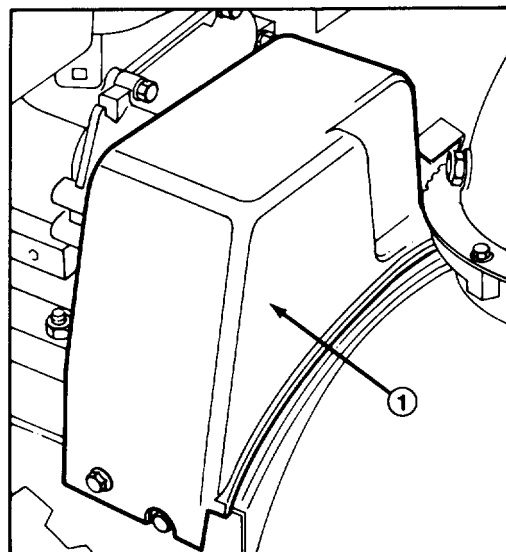

Figure 23
2. Remove two thread forming screws holding belt cover in place, and set belt cover aside (Fig. 23).
3. Remove auger drive belt from engine pulley and large auger/impeller pulley (Fig. 23).